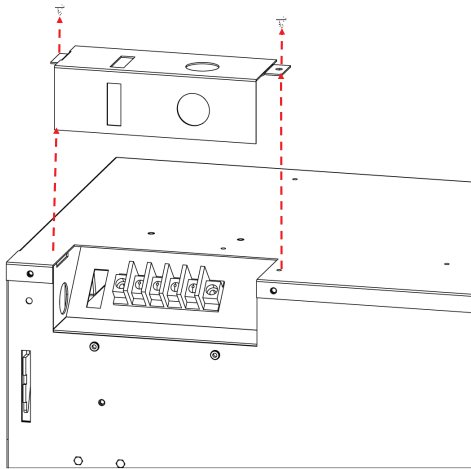

Fig. 4-1
- Remove the 2 securing screws from the junction box cover plate, located on the top left-hand, back- side of the appliance (Fig. 4-1).